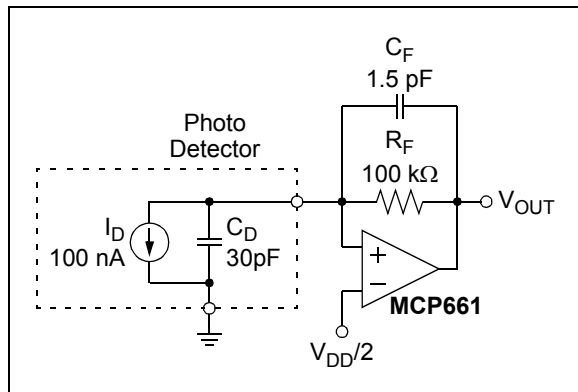

**FIGURE 4-10:** 50Ω Line Driver.
Differential gain (DG) and differential phase (DP) refer to the non-linear distortion produced by an NTSC or a phase-alternating line (PAL) video component. Table 1-2 and Figure 2-34 show the typical performance of the MCP661, configured as a gain of +2 amplifier (see Figure 4-10), when driving one back-matched video load (150 $\Omega$ , for 75 $\Omega$  cable). Microchip tests use a sine wave at NTSC's color sub-carrier frequency of 3.58 MHz, with a 0.286VP-P magnitude. The DC input voltage is changed over a +0.7V range (positive video) or a -0.7V range (negative video).
Figure 4-10 shows the MCP661 driving a 50Ω line. The large output current (e.g., see Figure 2-18) makes it possible to drive a back-matched line ( $R_{M2}$ , the 50Ω line and the 50Ω load at the far end) to more than  $\pm 2V$  (the load at the far end sees  $\pm 1V$ ). It is worth mentioning that the 50Ω line and the 50Ω load at the far end together can be modeled as a simple 50Ω resistor to ground.